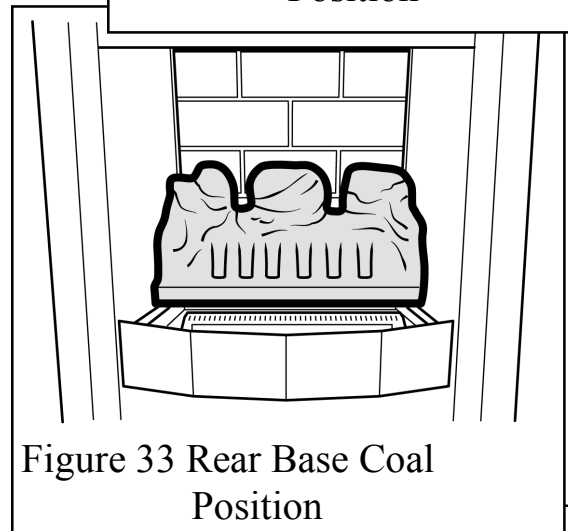

Figure 33 Rear Base Coal Position
2. Place the rear base coal in the firebox. It should rest on the ledges at the sides and back of the firebox and its rear face should touch the rear ceramic wall. See figure 33.